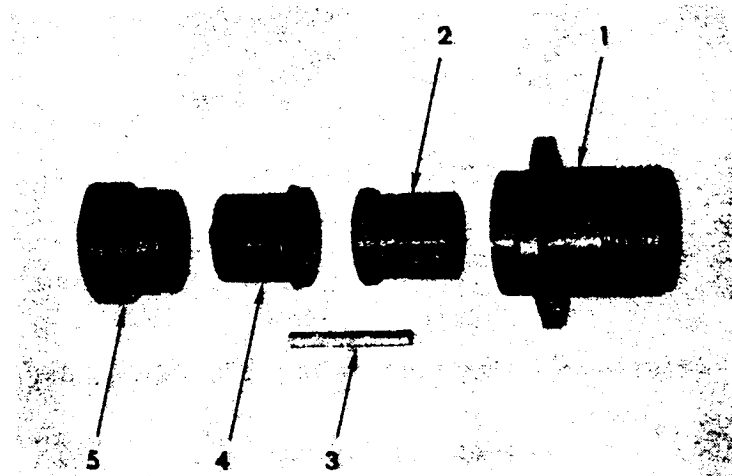
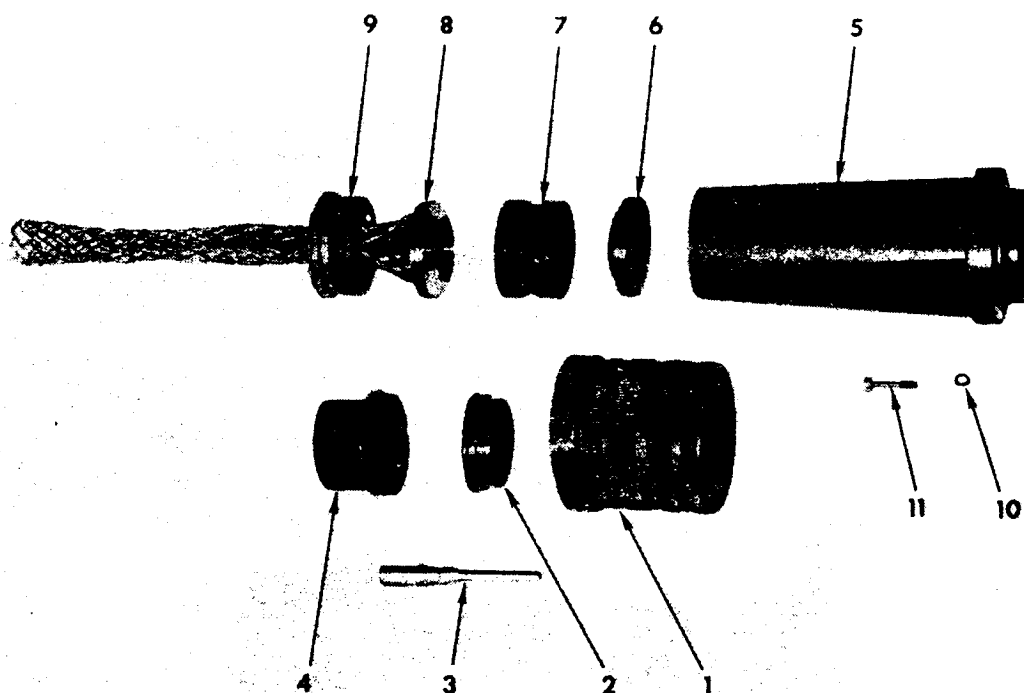

Figure 3-1. Connector MS90555, Exploded View
Figure 3-2. Connector MS90556, Exploded View
2-21. Align insert (2, figures 3-1 thru 3-4) with shell (1) so that large tab on insert mates with large slot in shell. Push insert into shell until it bottoms.
2-24. If lubricant on "O" ring of back adapter has been wiped dry, apply a very thin film of Dow Corning Corporation DC-4. Avoid applying any excess. Slide back-adapter (used on MS90556 and MS90557) (5, figures 3-2 and 3-3) or retaining nut (used on MS90555 and MS-90558) (5, figures 3-1 and 3-4) forward on cable and fasten into place on shell. The back-adapter is secured using three screws and lockwashers (11 and 10, figures 3-2 and 3-3). The retaining nut is threaded onto the connector shell using a left hand thread.
2-25. Lubricate outer surface of gland (7, figures 3-2 and 3-3) and threads of gland nut (9) with a thin film of Uni-Temp Grease EP. Keep lubricant from cable and inside surfaces of parts as it will reduce effective grip of gland on cable. Slide gland washer (6) and gland into connector housing, making sure they are seated properly. Slide the MS90561 Cable Grip into place against gland and install gland nut. Compress ends of grip toward each other to increase its diameter, permitting it to slide along cable. When in position, pre-load grip by stretching it back along cable so that tightening of nut will cause grip to bite into cable jacket.
Legend for Figure 3-1.
Legend for Figure 3-2.